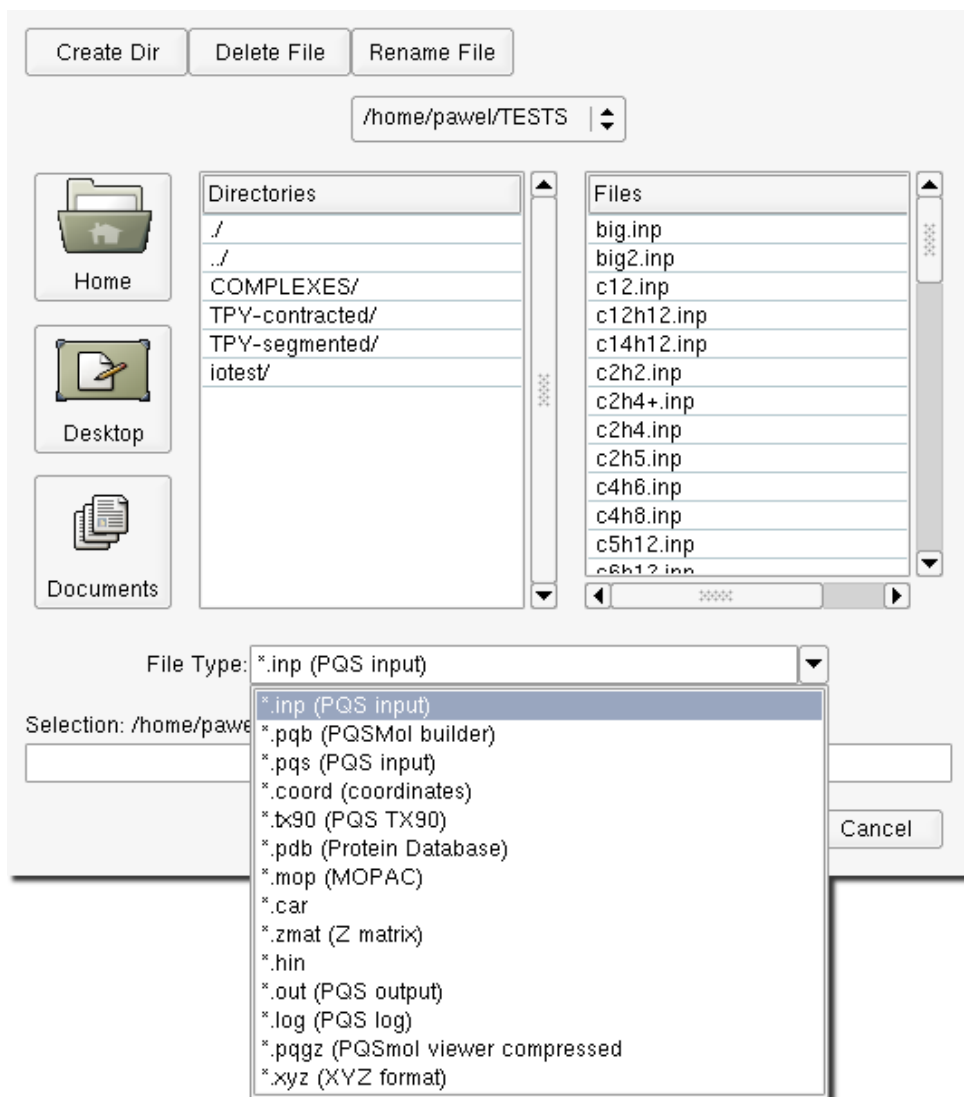

Figure 2.24: Import geometry dialog
- **Import** allows a range of different file types (other than `.pqb` files) to be imported. The *Import Geometry* dialog is shown in Figure 2.24.